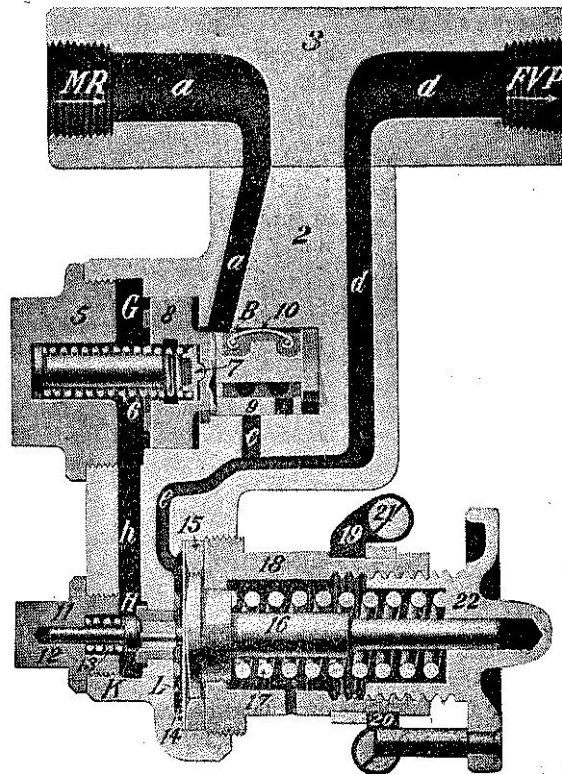
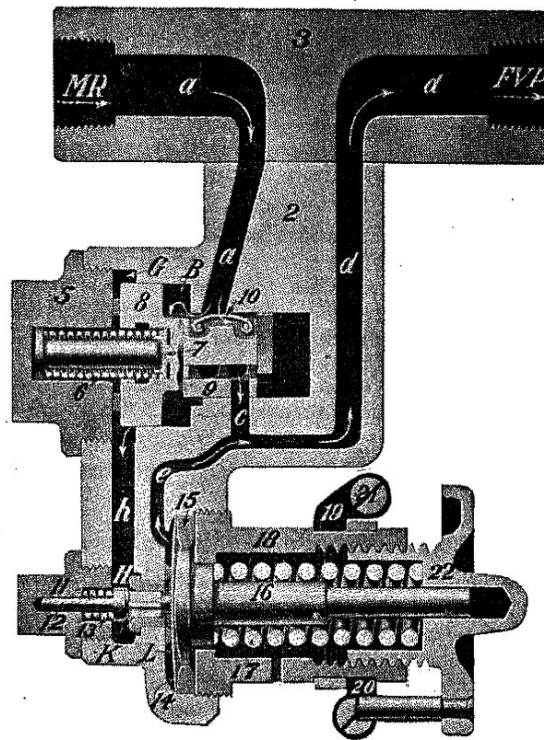

Fig 6: Diagram of B-6 Feed Valve, Closed.
Fig. 7: Diagram of B-6 Feed Valve,
99. Q. What do Figures 6 and 7 represent?
A. The feed valve consists of two portions, the supply and regulating portions. The supply portion consists of a slide valve 9 and a piston 8 (see Fig. 6). The supply valve 9 opens and closes communication between the main reservoir and the feed valve pipe and is moved by the piston 8 which is operated by main reservoir air entering through passage "a" on one side or by the pressure of the spring 6 on the other side. The regulating portion consists of a brass diaphragm 14, on one side of which is the diaphragm spindle 16, held against the diaphragm by the regulating spring 17, and on the other side a regulating valve 12, held against the diaphragm or its seat, as the case may be, by the spring 13. Chamber "L" at the left of the diaphragm is open to the feed valve pipe through the passage "e" and "d". The feed valve is adjusted by turning the hand wheel 22 in or out, thus increasing or decreasing the pressure exerted by the spring on the diaphragm. The same results are obtained in turning the hand wheel 22 as when turning the adjusting screw in the older types of feed valves.
Air from the main reservoir flowing through passage "a" into chamber "B" will force the piston 8 to the left against the tension of the spring 6; the piston in moving will take with it the supply valve 9, opening the supply port in the valve to port "c" in its seat as shown in Fig. 7. Main reservoir air will now be free to flow through passage "a", chamber "B", port "c" and passage "d" to the feed valve pipe. Air coming through port "c" also flows through passage "e" to chamber "L" at the left of the diaphragm 14, and this pressure tends toward forcing the diaphragm to the right; but the diaphragm being supported by the regulating spring 17, will remain in its position at the left, holding the regulating valve 12 off its seat, until the pressure in chamber "L" exceeds the tension of the regulating spring 17. Air, therefore, continues to flow from the main reservoir through a, B, c, d and e to the feed valve pipe and chamber "L", increasing the pressure, until the pressure on the diaphragm 14 overcomes the tension of the regulating spring 17, when the diaphragm will move to the right, allowing the spring 13 to force the regulating valve 12 to its seat, closing port "K". Chambers "G" and "H" are then no longer open to chamber "L" and the feed valve pipe, and these chambers being small, the pressure raises quickly to main reservoir pressure due to the leakage of air past the supply piston 8, which forms but a loose fit in its bushing. When the pressure in chamber "G" becomes nearly equal to that in chamber "B", the piston spring "6" forces the piston 8 and its slide valve 9 to closed position, which prevents further flow of air from the main reservoir to the feed valve pipe (see Fig. 6). The feed valve will remain in closed position until the pressure in chamber "L" is slightly reduced so that the pressure on the diaphragm 14 is no longer able to withstand the pressure of the regulating spring 17, which then forces the diaphragm to the left, lifting the regulating valve 12 from its seat and again opening port "K" to chamber "L", thus dropping the pressure at the left of piston 8 below that of the main reservoir acting on the opposite side of the piston.
Main reservoir pressure then forces the supply piston and valve over into open position, as shown in Fig. 7, and allows a further flow of air through port "c" to the feed valve pipe to again raise its pressure to the adjustment of the feed valve, when the valve will again close.